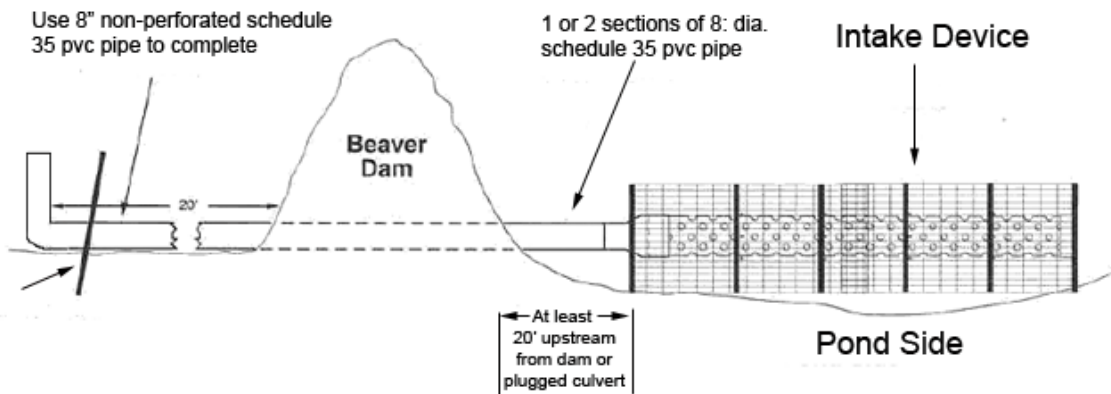
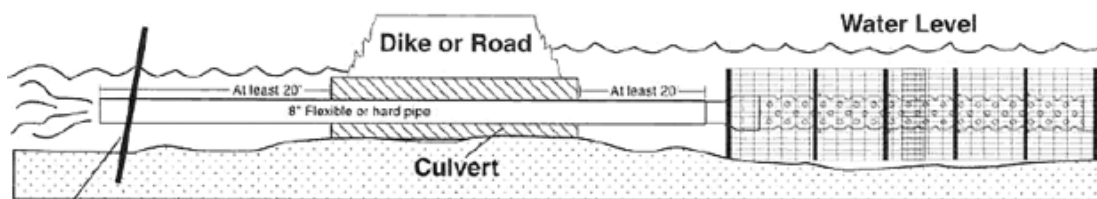

Figure 2, Dam
Figure 3, Culvert
- 3) **Insert PVC discharge piping through the opening of the dam** (see figure 2) **or culvert** (see figure 3), and if possible, extend the Beaver Pond Leveler Head 20 feet upstream out into the pond. Attach remainder of PVC pipe so it discharges 15 to 20 feet downstream of the dam (see also # 4 below).